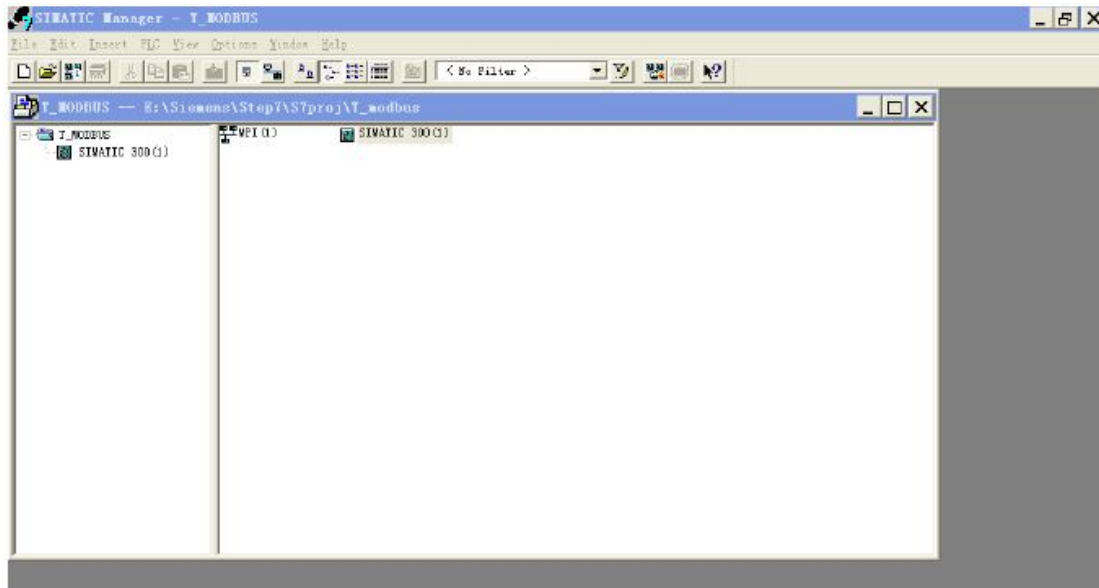

Figure 3
3. Click Insert, Station and then SIMATIC 300 Station; Figure 3